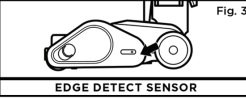

Fig. 3
- Locate the Dirt Detect sensor in the nozzle of the hand vac (Fig. 1), the Light Detect™ sensor on the top of the nozzle (Fig. 2), and the Edge Detect sensor on the side of the nozzle (Fig. 3).